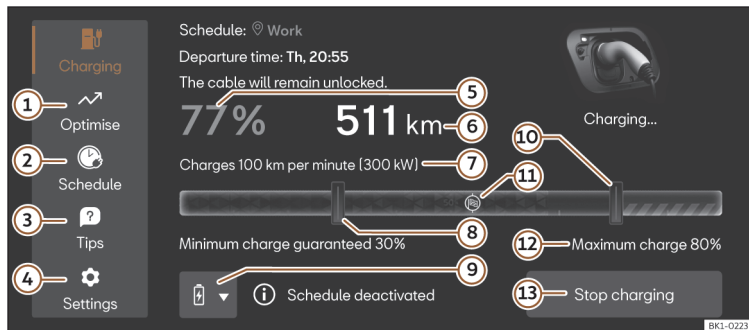

Fig. 63 In the infotainment system: Charging main menu.
2. Push the  (4) >>> **Fig. 63** button.